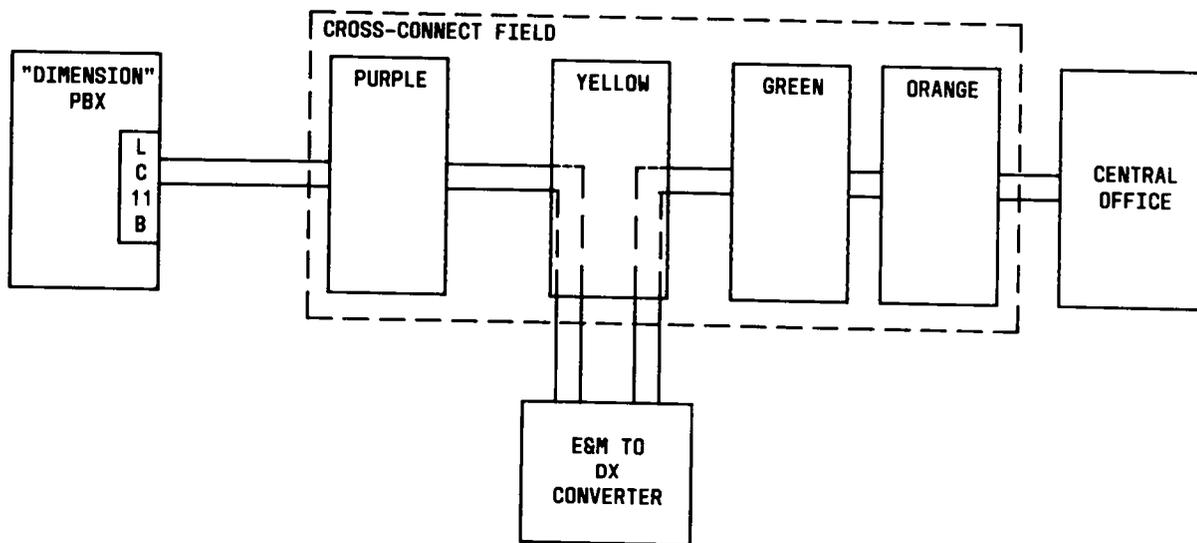

Fig. 45—Interconnections for E&amp;M to DX Converter
**4.133** Due to Part 68 of the FCC regulations, the LC11C cannot be used for DX signaling. If DX signaling is desired for use with an LC11C, an E&M to DX converter is required. The LC11C is connected to the converter via the cross-connect field (see Fig. 45).